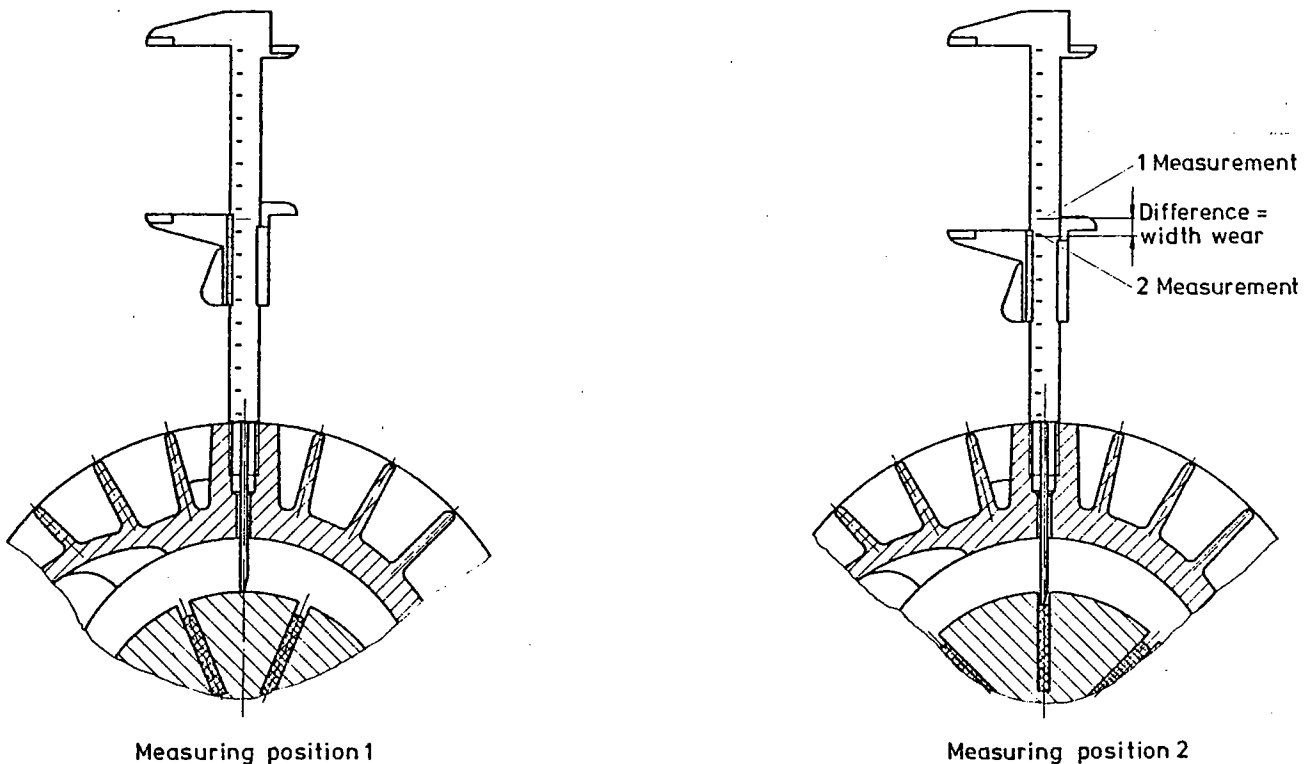

Fig. 6
4.8 Checking of the Rotor Vanes Wear (Fig. 6)